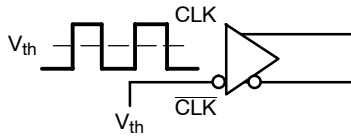

Figure 10. Differential Input Driven Single-Ended
**Differential Input Driven Single-Ended** (see Figures 10 & 12) (Note 8)